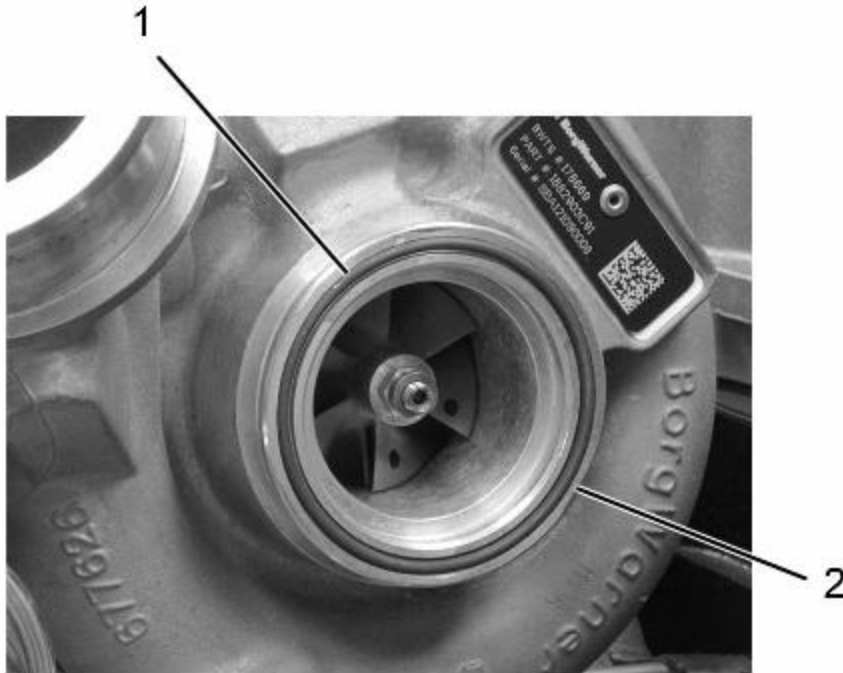

Figure 15. HP Turbocharger O-Ring.
11. Install new O-ring (Figure 15, Item 1) into groove on HP turbocharger (Figure 15, Item 2).